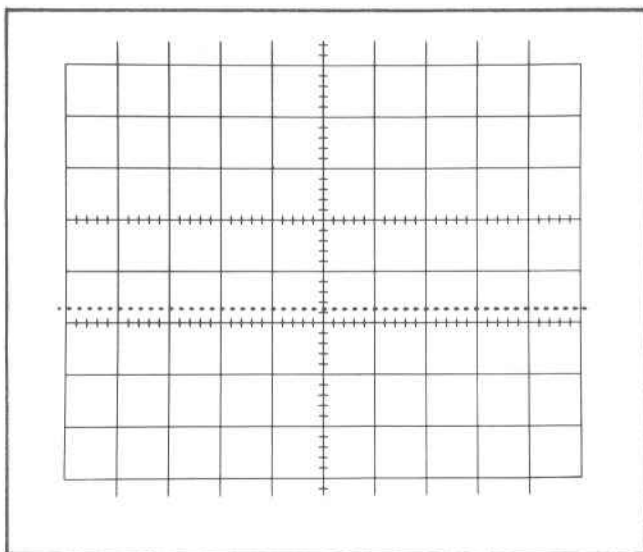

Fig. 5-9. Typical CRT display for Intensity Modulation Check (step 32).
- c. The trace should appear as a broken line or row of dots (see Fig. 5-9). It may be necessary to turn the INTENSITY control slightly counterclockwise to obtain this display.